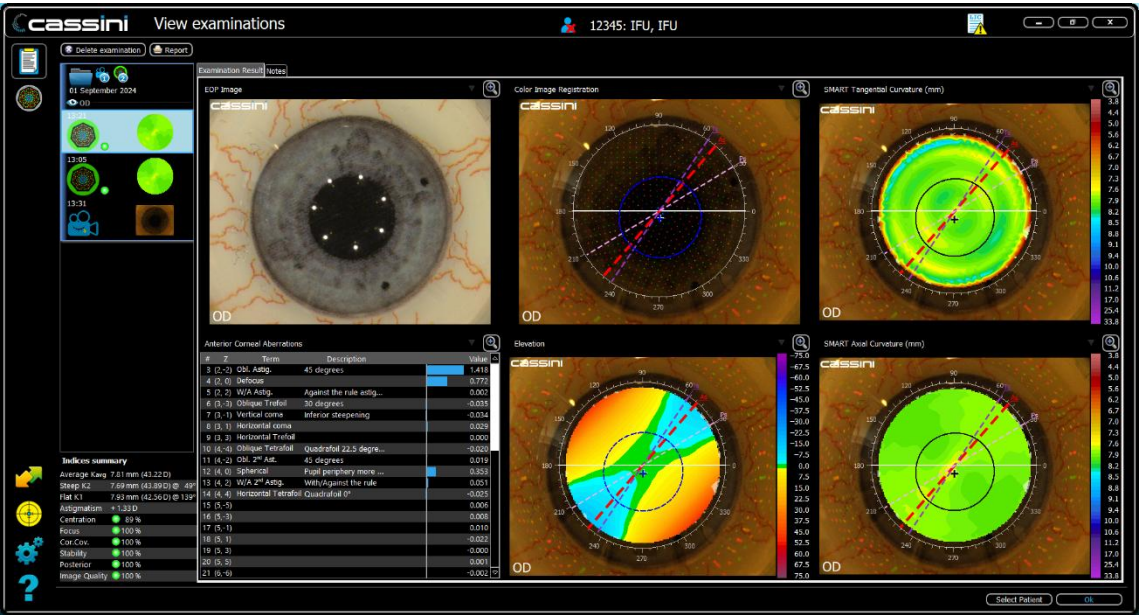

Figure 28: Result SMART (6-Up)
4. The results are displayed as shown in Figure 28
The user can switch to the 6-Up view as Figure 28.